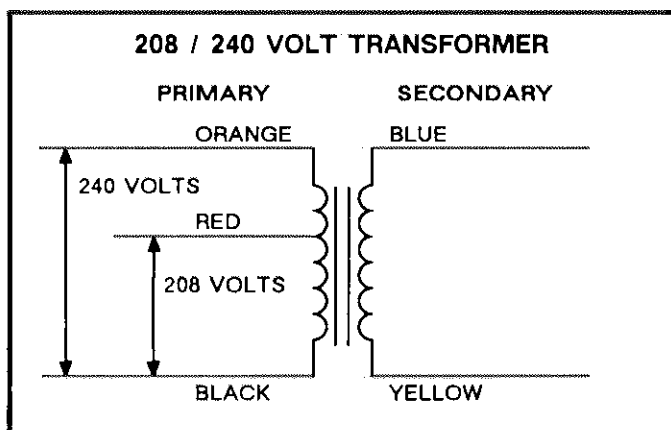

FIGURE 4
All CB19 series units use a single line voltage to 24VAC transformer mounted in the control box. The transformer supplies power to the control circuits in the indoor and outdoor unit. Transformers are rated at 70VA. 208/240 (P) voltage transformers use two primary voltage taps as shown in figure 4.